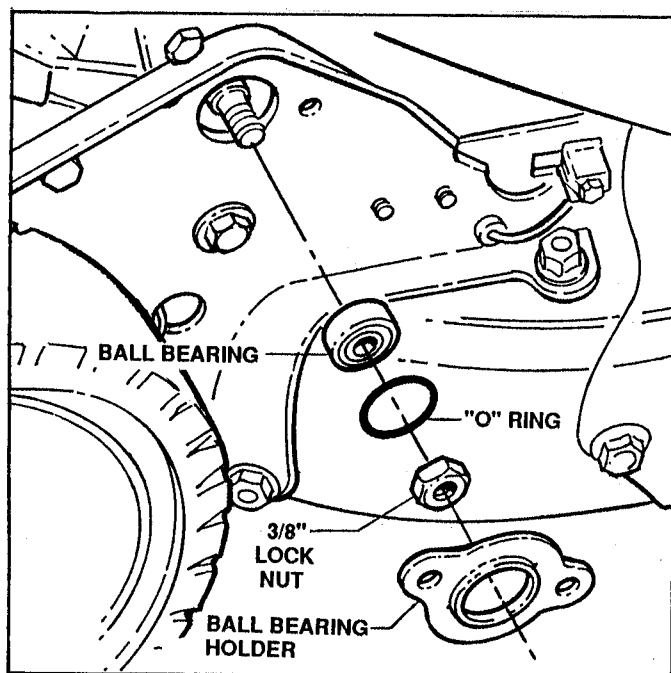

FIGURE 3.18
- (b) Remove the 3/8" hex lock nut which is located on the outside of the right wheel bracket. See Figure 3.18.